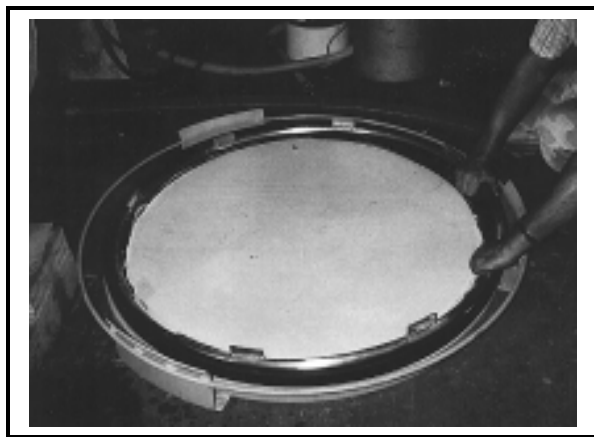

FIGURE 6 (MSSMD423AE)
2. Apply soapy water to the inside of the lip, then insert the diaphragm tension ring so that it seats fully (see FIGURE 6). **Never use grease.**